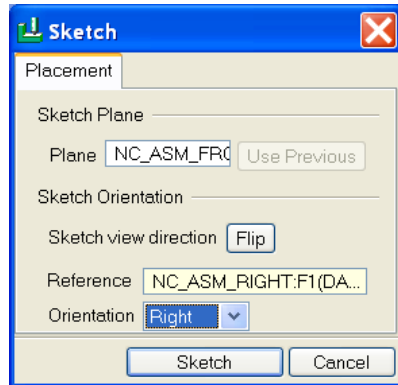
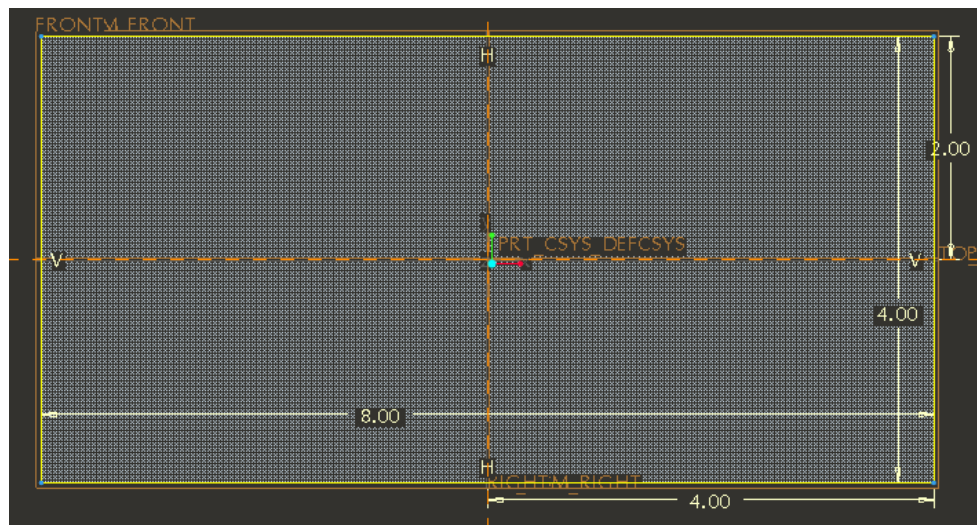
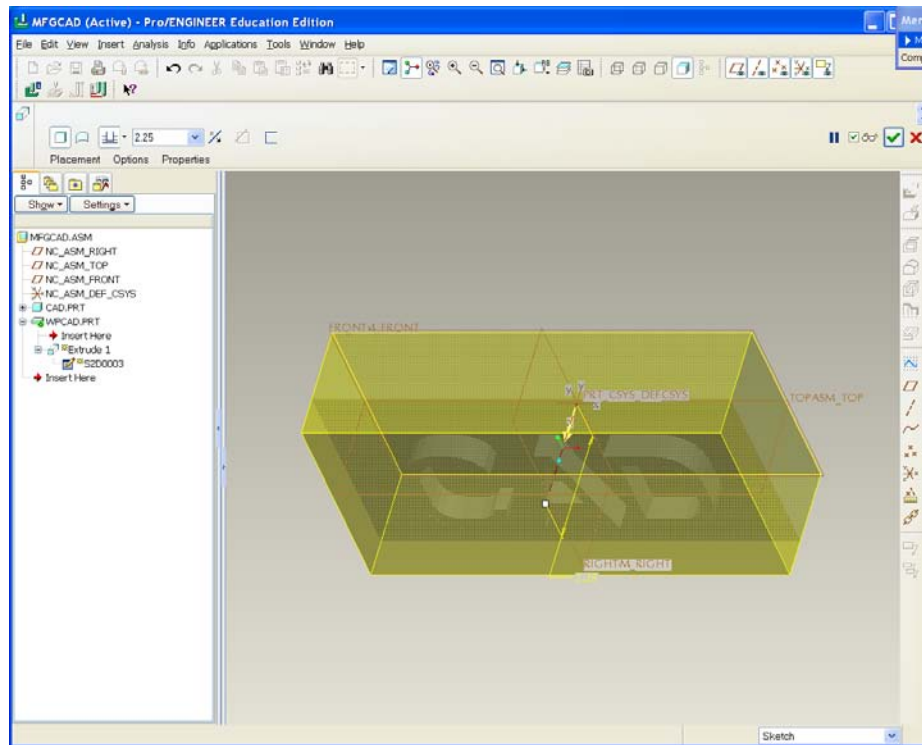

Figure 1.18
Figure 1.20
Figure 1.21 Reference Model and Workpiece
5. Create a workpiece 4"x8"x2". From Insert pull down menu, select Workpiece → Create. Enter a name for the workpiece: wpcad. Select Solid → Protrusion → Extrude → Solid → Done. Select NC_ASM_FRONT as sketch plane and NC_ASM_RIGHT as reference plane in Figure 1.18. Create a rectangle 4"x8" surrounding the CAD part as shown in Figure 1.20 with references as shown in figure 1.19 and extrude it to 2" as shown in Figure 1.21.